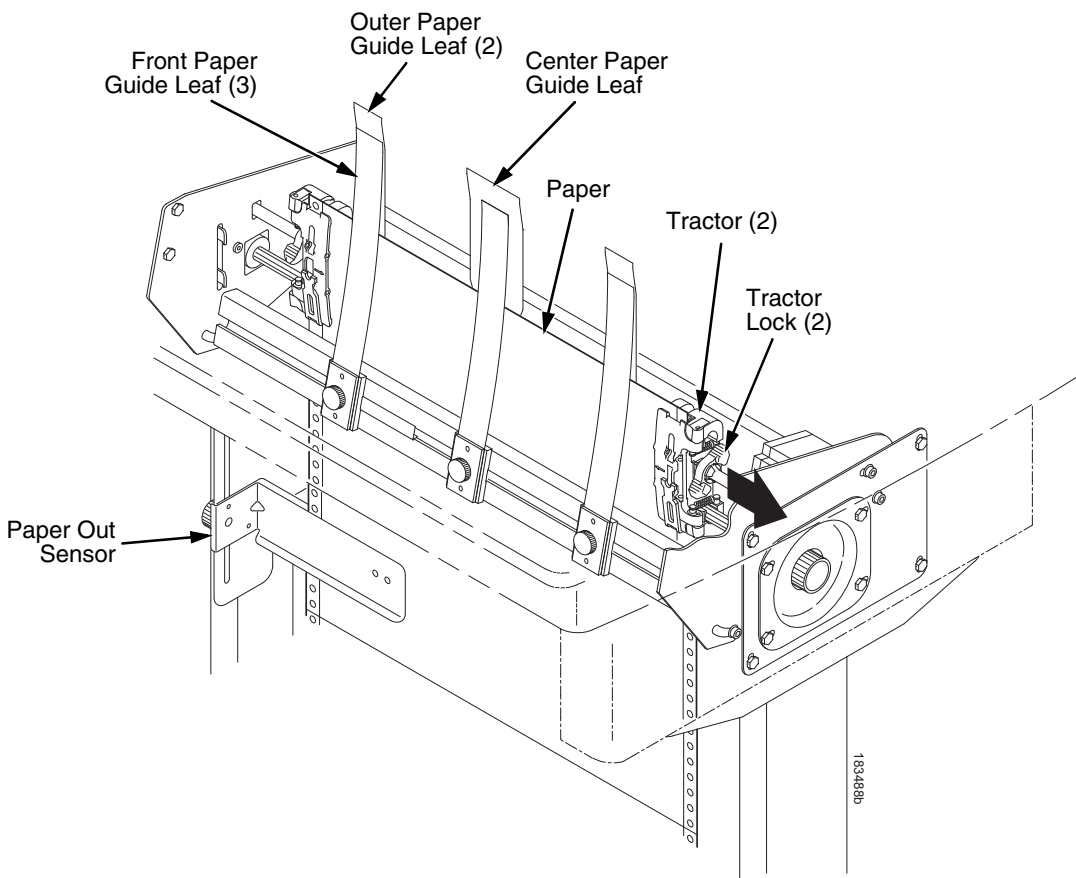
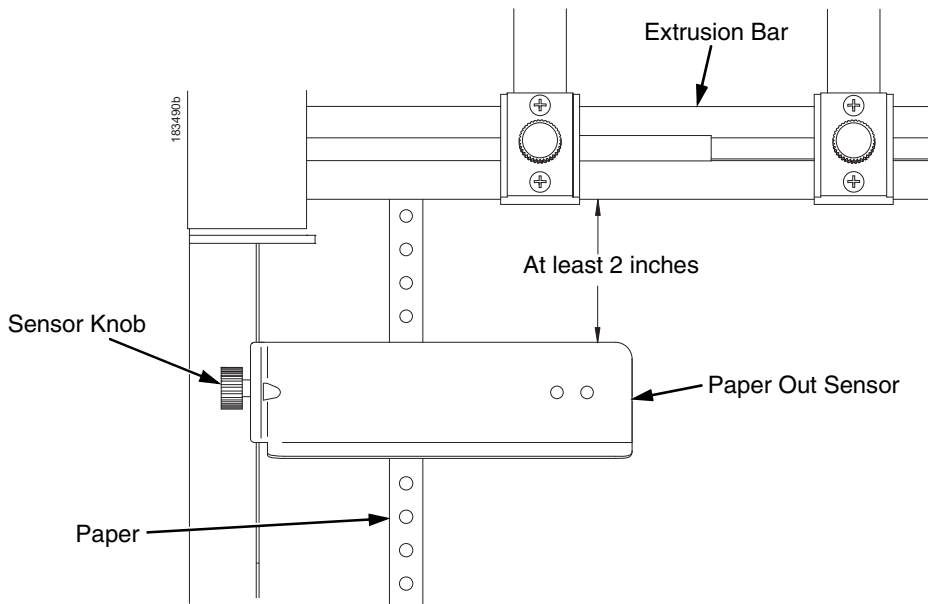

Figure 108. Adjusting the Horizontal Paper Tension
Figure 111. The Paper Out Sensor
3. Unlock and open the tractor doors and slide the paper from below, through the black paper out sensor slot on the left side, and up between all front and rear paper guide leaves. (See Figure 108.)
6. Adjust the paper web tightness by sliding the right tractor to remove slack or to adjust for various paper widths. (See Figure 108.)
The paper out sensor indicates when the printer runs out of paper. (The sensor does not work with black backed forms.) Unlike the standard pedestal printer, the ZTP printer requires you to load the paper through the paper out sensor slot (Figure 108 and Figure 111). Correct positioning of the paper out sensor ensures that the last form the printer prints will be properly presented to the tear bar. To position the paper out sensor, do the following: